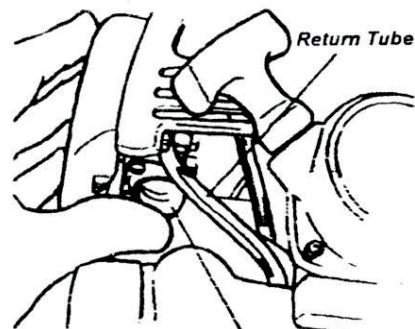

Figure 3
3. Prime the engine by depressing the carburetor primer bulb four or five times. See Figure 3. You should be able to see fuel inside the bulb.